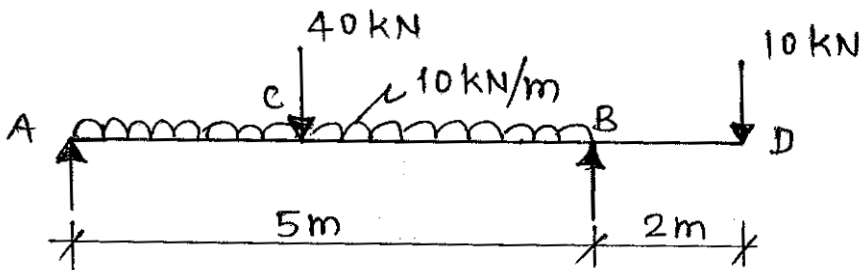

Fig No. 2
- c) A beam is supported and loaded as shown in fig. No. 2. Draw shear force and bending moment diagrams. Determine position of point of contraflexure from left hand support.